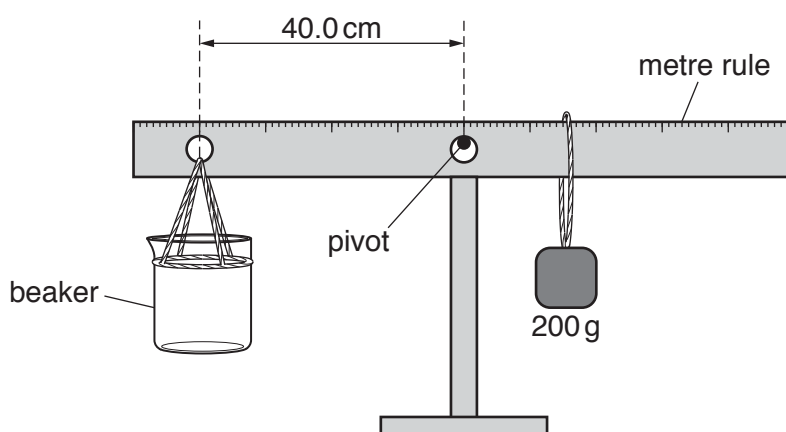
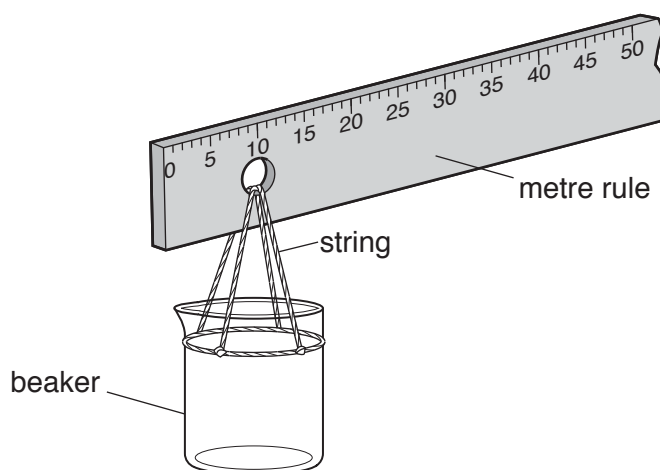

Fig. 4.1
Fig. 4.2
1. The Supervisor should set up the apparatus as shown in Fig. 4.1. The metre rule should be balanced. Supervisors should adjust the height of the pivot so that the beaker is no more than 5 cm above the bench.
4. Each candidate must have a beaker identical to that used by the Supervisor. String should be tied securely around the beaker, as shown in Fig. 4.2 and attached to the metre rule at the 10.0cm hole as shown in Fig. 4.1 and Fig. 4.2.
7. At the changeover, the Supervisor should ensure that the apparatus is restored to the arrangement shown in Fig. 4.1 and ensure that there is sufficient oil for the next candidate. The oil in the beaker should be tipped back into the container. A paper towel should be used to clean the inside of the beaker before the next candidate uses the apparatus.